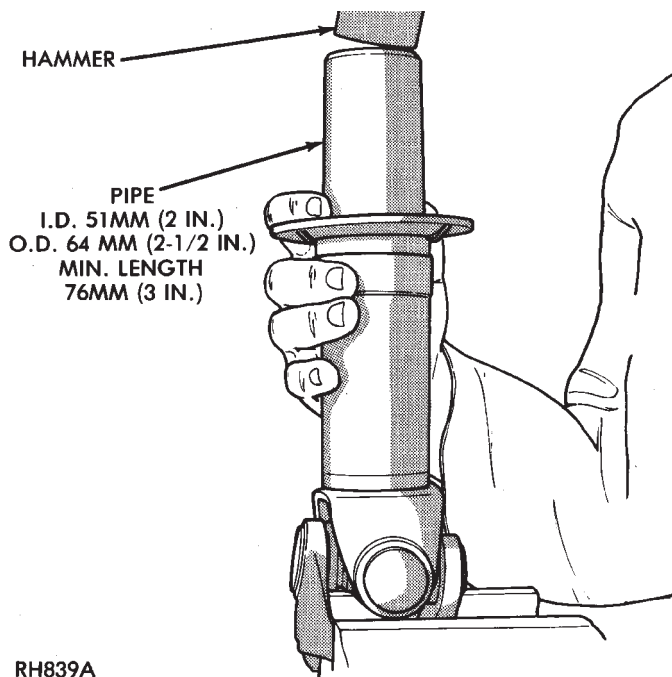

Fig. 6 Slinger Installation Intermediate Shaft
(1) Place new slinger on stub shaft and drive it on until it bottoms out on the shoulder of the shaft (Fig. 6). A tool for this purpose can be fabricated from a piece of pipe that has the dimensions noted in (Fig. 6).